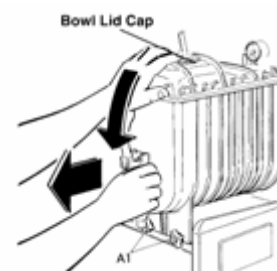

Fig. 22
- Lift the bowl lid cap lever (fig.22), remove the cap, unscrew the knobs A1 (in this way the bowls can be lowered slightly), open the tap to remove any remaining liquids and then extract the bowl from its seating, pulling it outwards (fig.22).